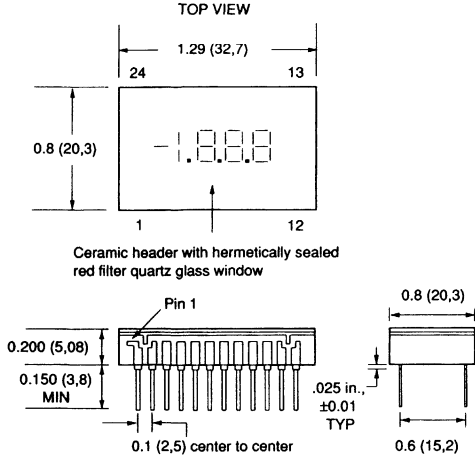

**Figure 5. Using the 1.23V REF OUT to Change the Calibration**
**Full Scale Calibration** - Strap the TRIMMED REF OUT (pin 6) to REF IN (pin 7) for normal, factory calibrated, operation. Use the 1.23V REF OUT (pin 8) for applications needing external gain adjustment. Figure 5 shows the wiring configuration for each model. Calibration is performed with a near full scale input precision voltage.